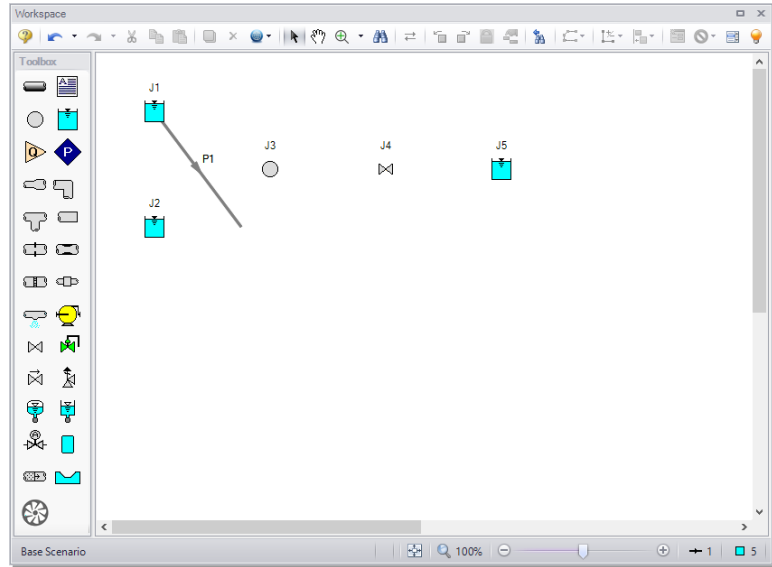
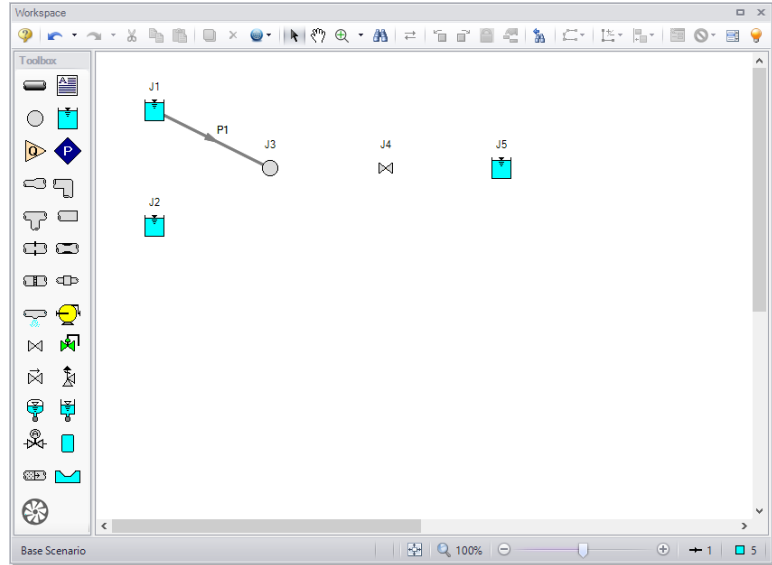

Figure 2.7 Valve closure model with the first pipe partially connected
Figure 2.8 Valve closure model with the first pipe fully connected
- **To place the pipe between J1 and J3,** click and drag the pipe so that the left endpoint falls within the J1 Reservoir junction (see Figure 2.7). Next, grab the right endpoint of the pipe and drag it until the endpoint falls within the J3 Branch icon (see Figure 2.8).